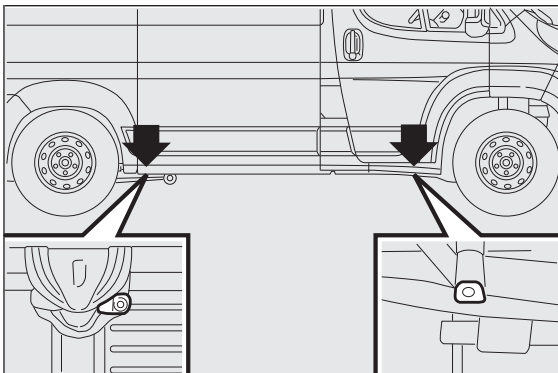

fig. I 68
- ☐ arrange the jack near the lift support closest to the wheel to be replaced at the points shown in fig. I 68. For short wheelbase versions with retractable footboard, the jack must be positioned at the lift point shown in fig. I 69 aligned (45°) so that it does not interfere with the retractable footboard;